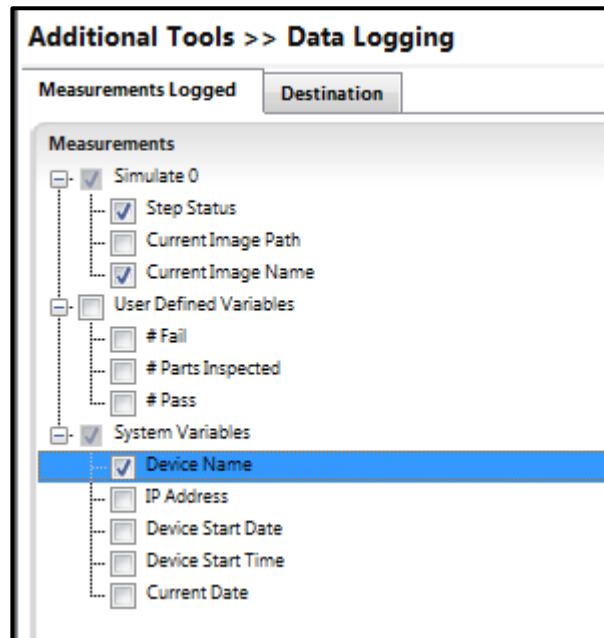

Figure 123. Select measurements to be logged.
2. In the initial Measurements Logged tab, select the results and variables wished to be logged [Figure 123], or simply check “Select All”.